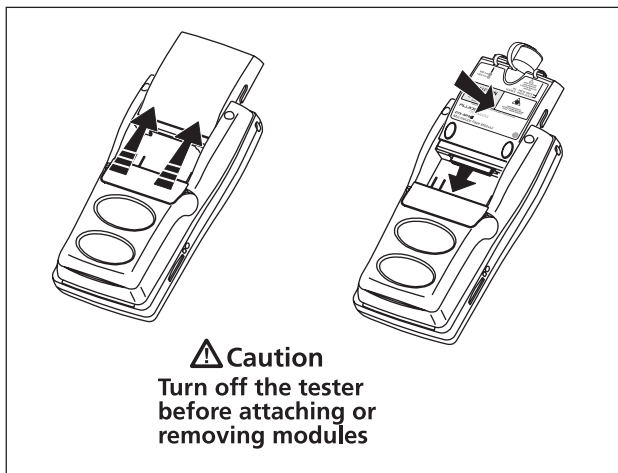

Figure 2-8. Installing Fiber Modules
- 1-2 Remove the cover from the back of each unit and install a DTX-MFM2, DTX-GFM2, or DTX-SFM2 module in each unit, as shown in Figure 2-8.